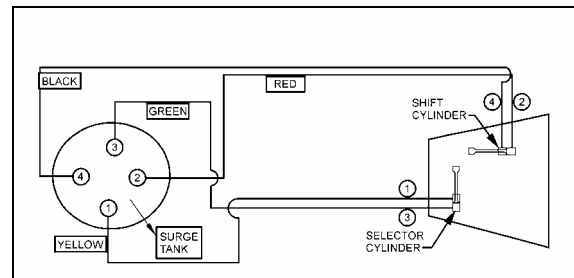

FIGURE 14: HYDRAULIC SYSTEM SCHEMATIC 07035
6. Move the shift lever to the extreme left to fill circuit 3 (fig. 14). Maintain lever in this position until there are no more air bubbles mixed with the oil entering the overflow tank;
7. Move the shift lever to the extreme right to fill circuit 1 (fig. 14). Maintain lever in this position until there are no more air bubbles mixed with the oil entering the overflow tank;
12. Move the shift lever to the extreme forward position to fill circuit 2 (fig. 14). Maintain lever in this position until there are no more air bubbles mixed with the oil entering the overflow tank;
13. Move the shift lever to the extreme rear position to fill circuit 4 (fig. 14). Maintain lever in this position until there are no more air bubbles mixed with the oil entering the overflow tank;
15. Close both the quick connect and the plug on the shift cylinder (fig. 14);